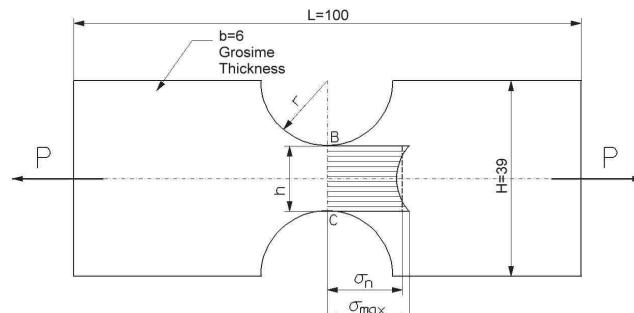
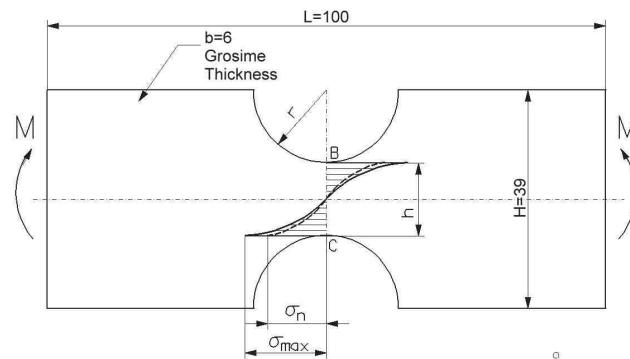

Fig. 10.1
Fig. 10.2
Placa dreptunghiulară 100x39, cu concentrator de tensiune simetric median, este supusă la tracțiune cu o forță P, fig. 10.1 respectiv încovoiere cu momentul M, fig. 10.2.
Pentru placa supusă încovoierii prin momentul M, fig. 10.2, tensiunea maximă din punctele B și C se exprimă prin relația (3) unde, valorile coeficientului  $\alpha_k$  sunt determinate teoretic [25], tensiunea  $\sigma_n$  se exprimă prin relația (4), iar modulul de rezistență W are expresia (5).
The rectangular plate 100x39, with a symmetric and median stress concentrator, is subjected to a tensile force P, fig. 10.1 and to a bending moment M, fig. 10.2.
For the tensile process of the plate with a P force, fig. 10.1, the maximal stress value from the B and C points are expressed by relation (1), where the values of  $\alpha_k$  coefficient are experimentally determined [25] and the  $\sigma_n$  stress is expressed by relation (2).
For the bending process of the plate with the M moment, figure 10.2, the maximal stress value from B and C points are expressed by relation (3) where the values of the  $\alpha_k$  coefficient are theoretically determined [25], the  $\sigma_n$  stress is expressed by relation (4) and the coefficient of resistance is expressed by relation (5).